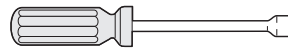

Fig. 6
- 1/4" & 5/16" Nutdriver or flat head screwdriver (Fig. 6).